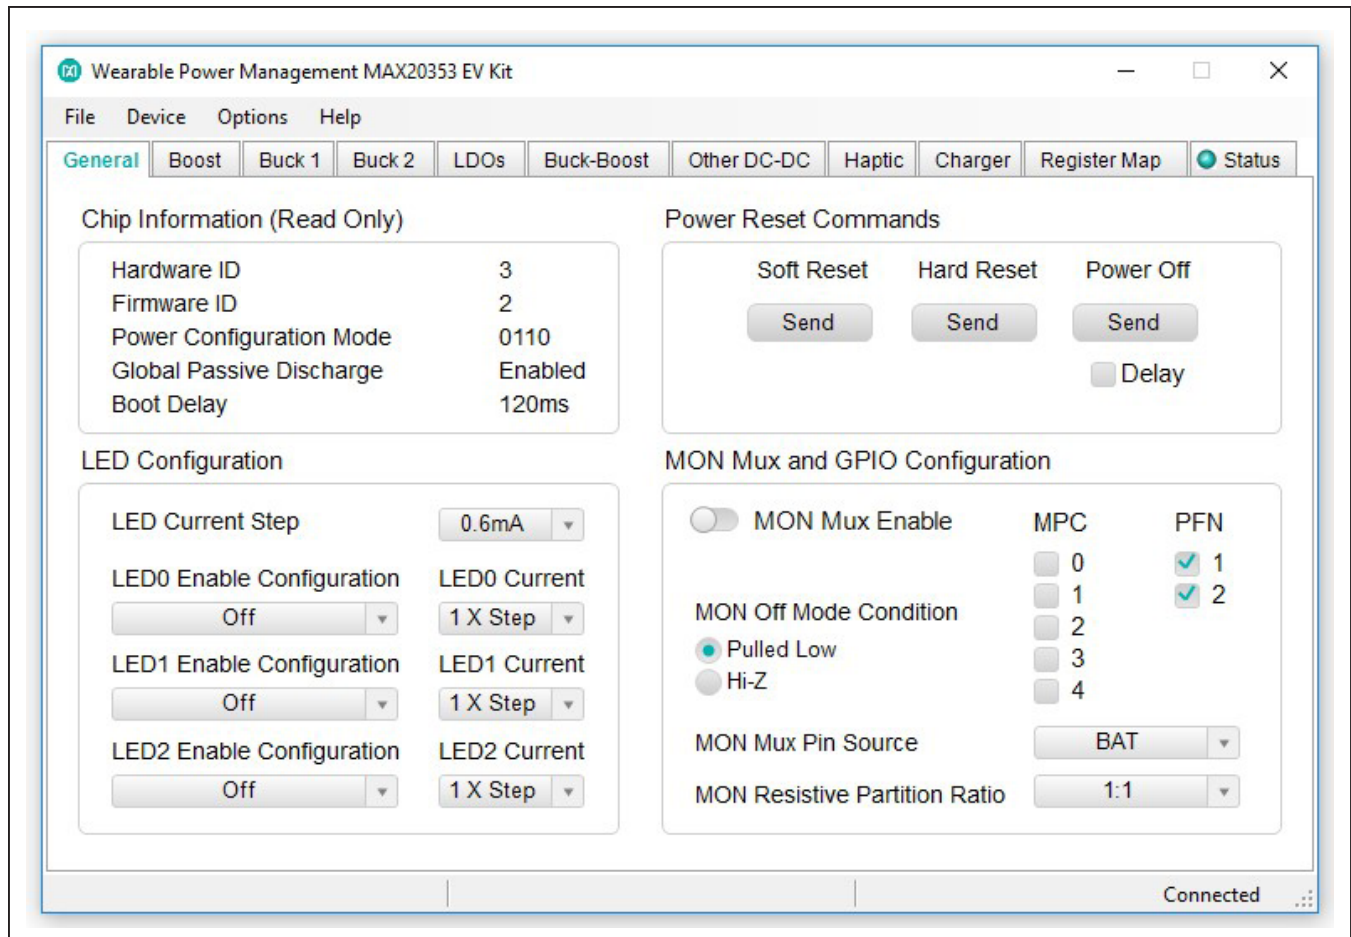

Figure 2. MAX20353 Connected Status
- 8) Press the PB1 (\overline{KIN}) button until the device enters ON mode. The GUI then shows **Connected** and the registers are read and displayed (Figure 2).